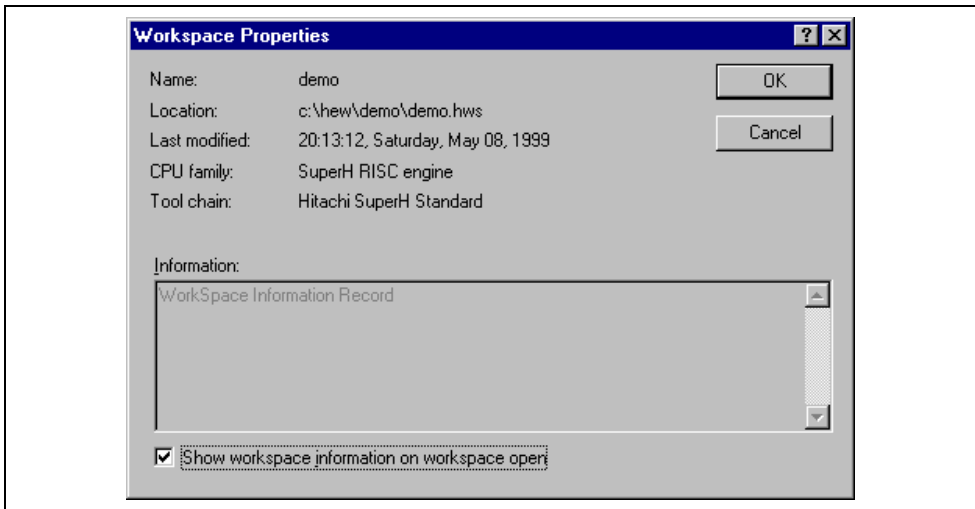

Figure 1.4 Workspace Properties Dialog Box
3. Click the [Open] button to open the workspace. If the HEW is set up to display information when a workspace is opened, the [Workspace Properties] dialog box will be displayed (figure 1.4). Otherwise, the workspace will be opened.